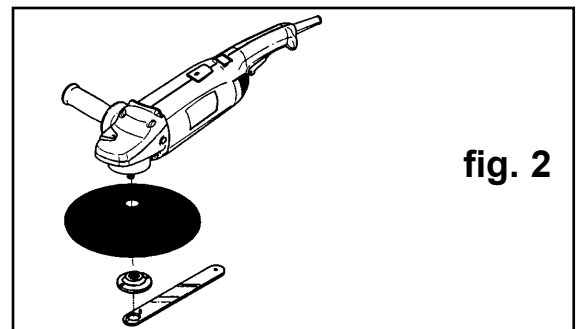

fig. 2
- 4.2.2. Remove flange nut from shaft, fit pad on shaft and retain with flange nut (see fig.2).